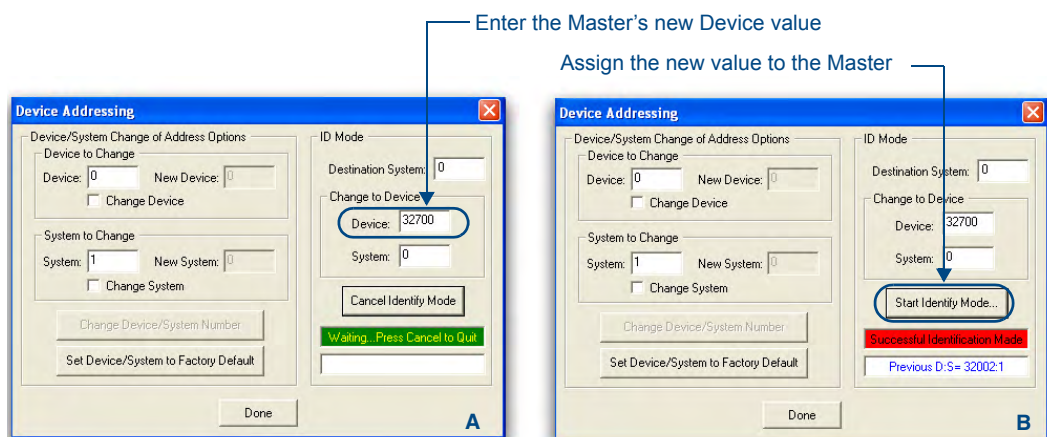

FIG. 1 NetLinx Studio: Device Addressing dialog (using the ID mode to set the NI Controller's device value)
1. Access the *Device Addressing* dialog (FIG. 1) by selecting **Diagnostics > Device Addressing**.
2. In the *Device* field (A in FIG. 1), enter the new value for the NI Controller (range = 0 - 32767).
3. Press the **Start Identify Mode** button (B in FIG. 1).